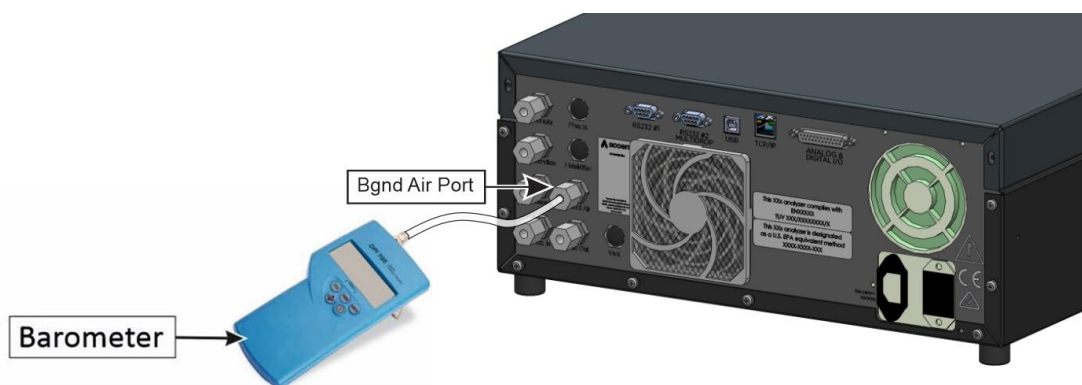

Figure 113 – Pressure Calibration (Internal Pump Option Only) Set-up
4. Refer to Figure 113. Connect a barometer to the **Bgnd Air Port**.